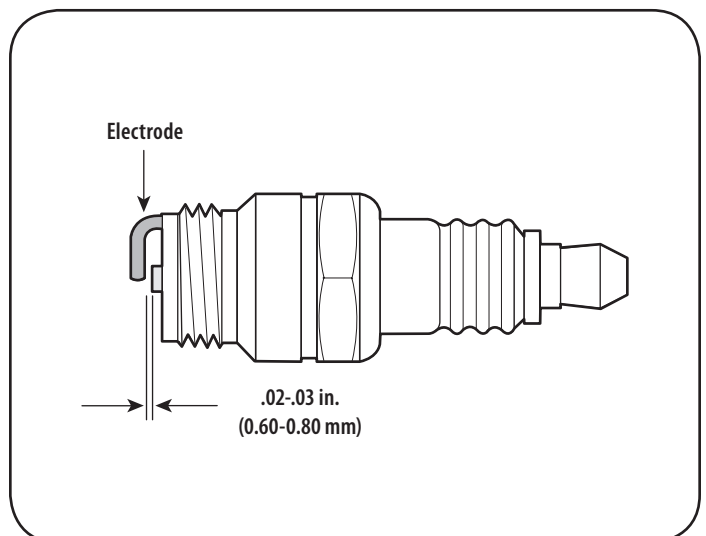

Figure 20
3. Measure the plug gap with a feeler gauge. Correct as necessary by bending side electrode. See Figure 20. The gap should be set to .02-.03 inches (0.60-0.80 mm).